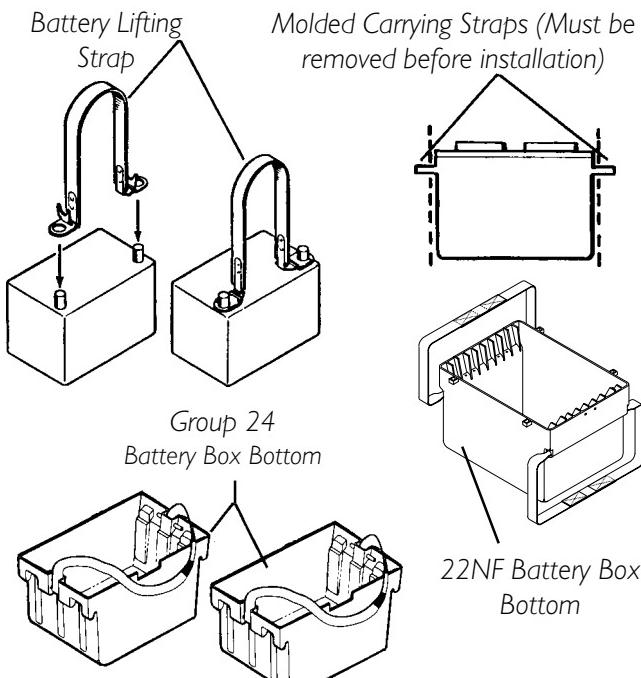

FIGURE 1 - INSTALLING/REMOVING BATTERIES INTO/FROM BATTERY BOXES
INSTALLING/REMOVING BATTERIES INTO/FROM BATTERY BOXES (FIGURE 1)
2. Disconnect battery cables. Refer to DISCONNECTING/CONNECTING BATTERY CABLES for one (1) of the following:
3. Secure battery lifting strap to battery terminal(s)/post(s) (FIGURE 1).